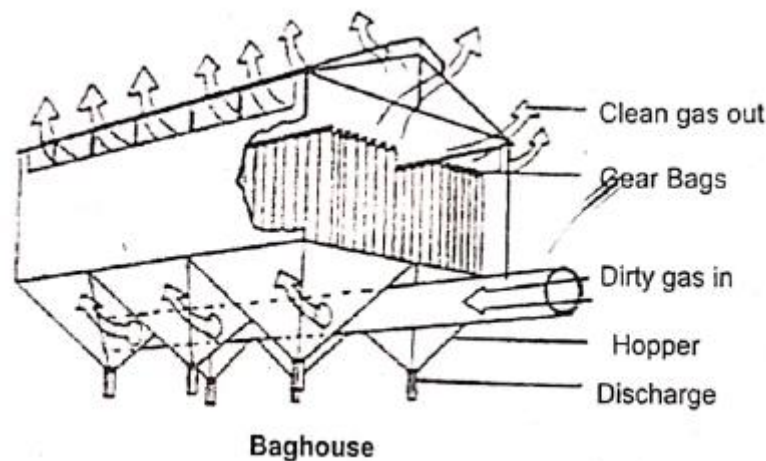

Figure 3.5.2 Baghouse
- Filter bags ranging from 1.8 to 9m long ,can be utilized in a bag house filter arrangement shown in figure 3.5.2